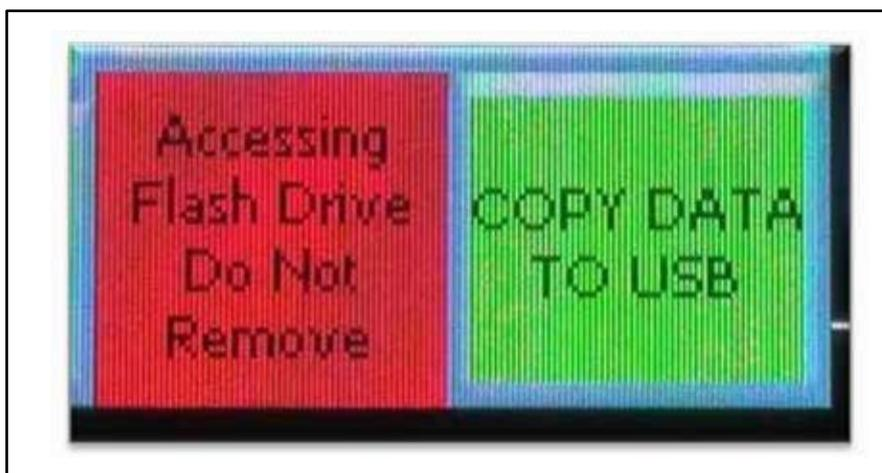

Figure 6: Copy Data to USB Button and Red “Accessing USB Drive Do Not Remove” Alert
- When testing is complete, press the red “STOP” button and then the “COPY DATA TO USB” button to transfer the test data to the USB Drive. (Figure 6) Do not remove the USB Drive until the flashing red “Accessing USB Drive Do Not Remove” stops flashing. If “COPY DATA TO USB” is pressed and the flashing icon does not appear, then all data has been transferred.